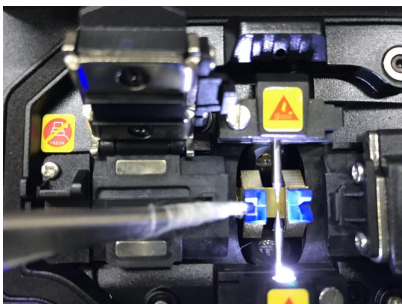

Figure 5.2
2. Use a cotton swab soaked in alcohol to clean the upper surface and bottom of the V-shaped groove, and finally wipe the alcohol in the V-shaped groove with a dry cotton swab as shown in Figure 5.2. Be careful not to leave lint.